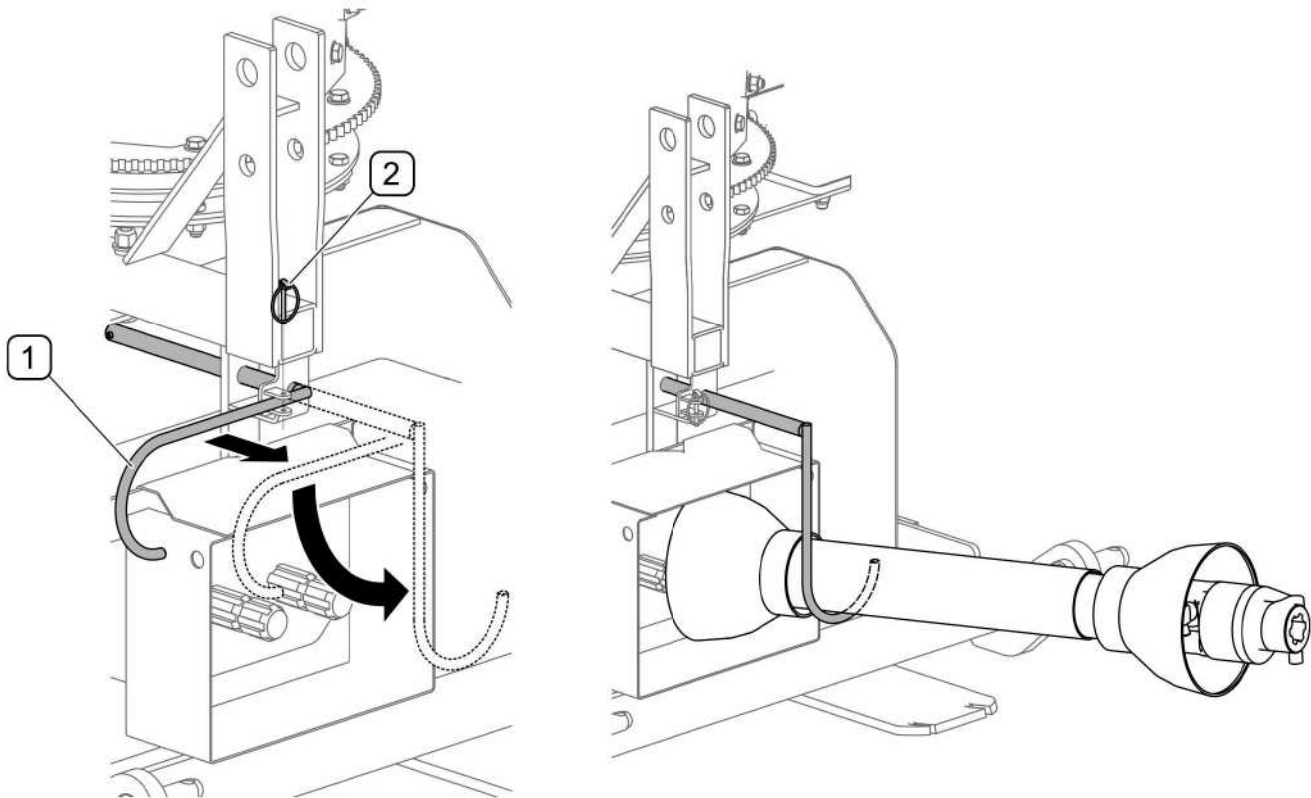

FIG. 4.10 **Protecting power take-off shaft**
- Disconnect telescopic PTO shaft from the tractor and place in the bracket (FIG. 4.10).